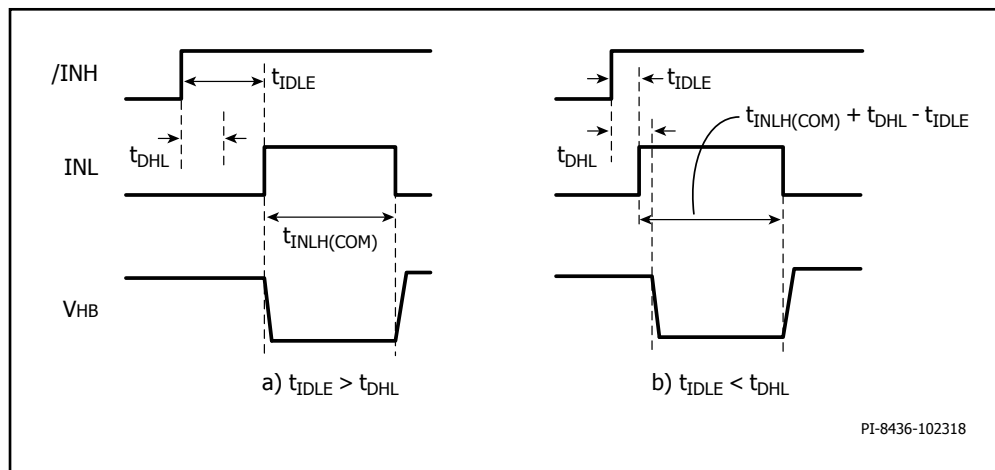

Figure 28. Minimum INL High Time Required for Device Internal High-Side Status Update a) $t_{IDLE} > t_{DHL}$ b) $t_{IDLE} < t_{DHL}$.
- Assumes control input /INH was high for an idling period of $t_{IDLE} > t_{DHL}$. The required minimum INL high time for internal communication increases by $t_{DHL} - t_{IDLE}$ if $t_{IDLE} < t_{DHL}$ (refer to Figure 28).